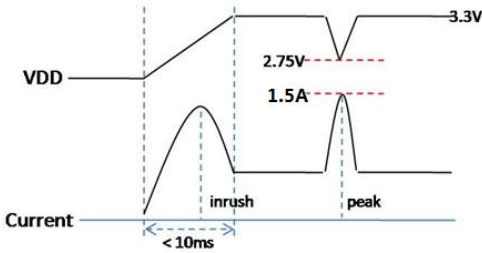

Figure 4. Inrush Measure Condition
4. Measure condition (Figure 4)